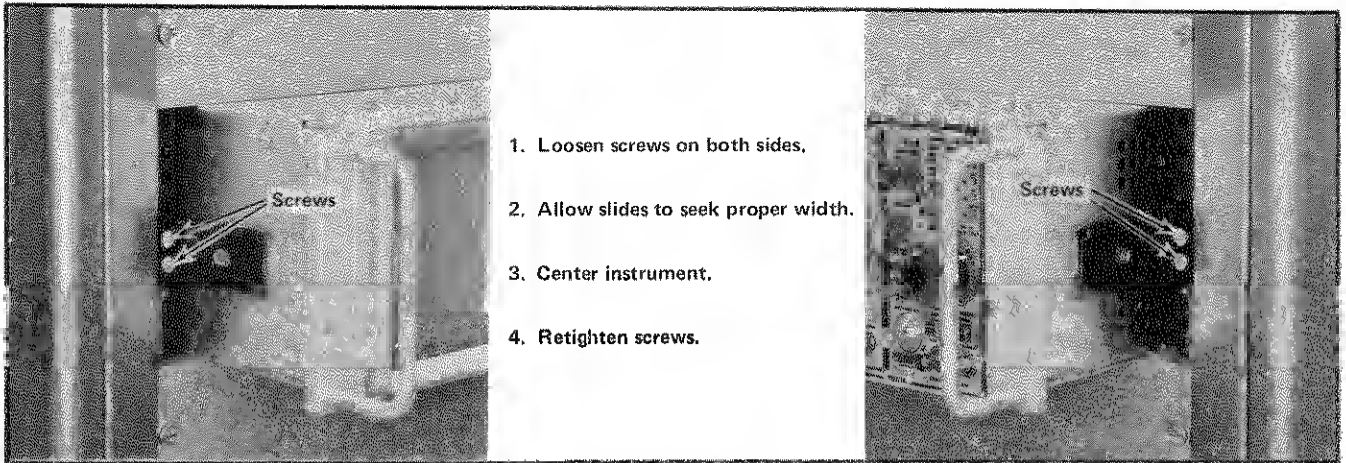

Fig. 3-5. Adjusting the slide-out tracks for smooth sliding action.
5. Follow the procedure given in Fig. 3-5 to adjust the alignment of the stationary sections.